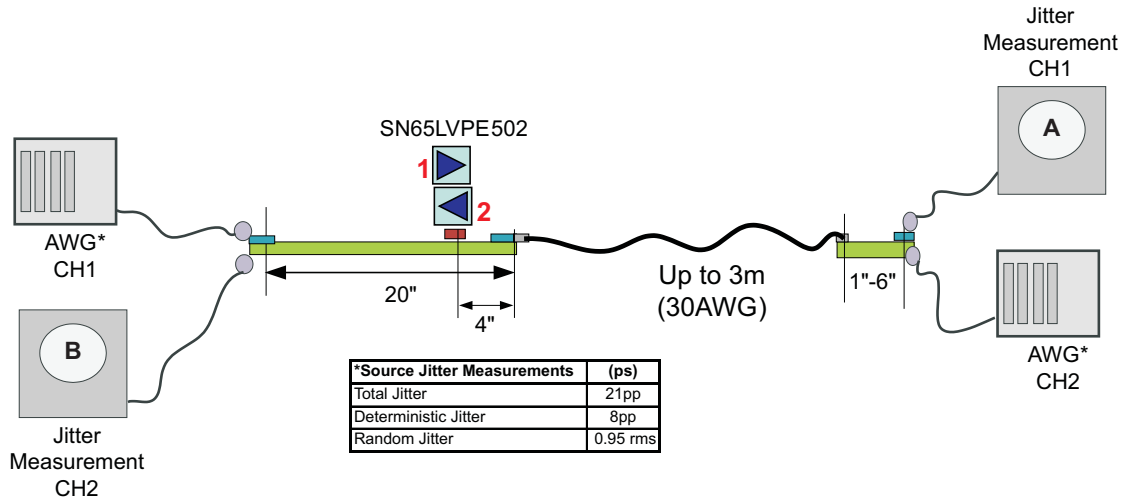

Figure 8. Jitter Measurement Setup
(1) Includes Rj at 10⁻¹²(2) Measured at the end of reference channel in Figure 8 with K28.5 pattern, V_{ID}=1000mVpp, 5Gbps, -3.5dB DE from source.
(3) UI = 200ps
(4) Rj calculated as 14.069 times the RMS random jitter for 10⁻¹² BER